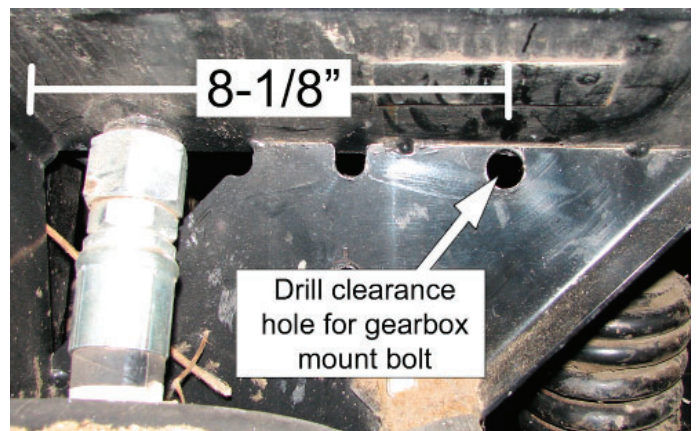

Figure 16: Belt drive mount location
3. Mark and drill a Ø21/32" clearance hole for belt drive fan mount in head. Measure 8.125" from the vertical beam (Figure 16). The hole should be placed as close as possible to oil reservoir.